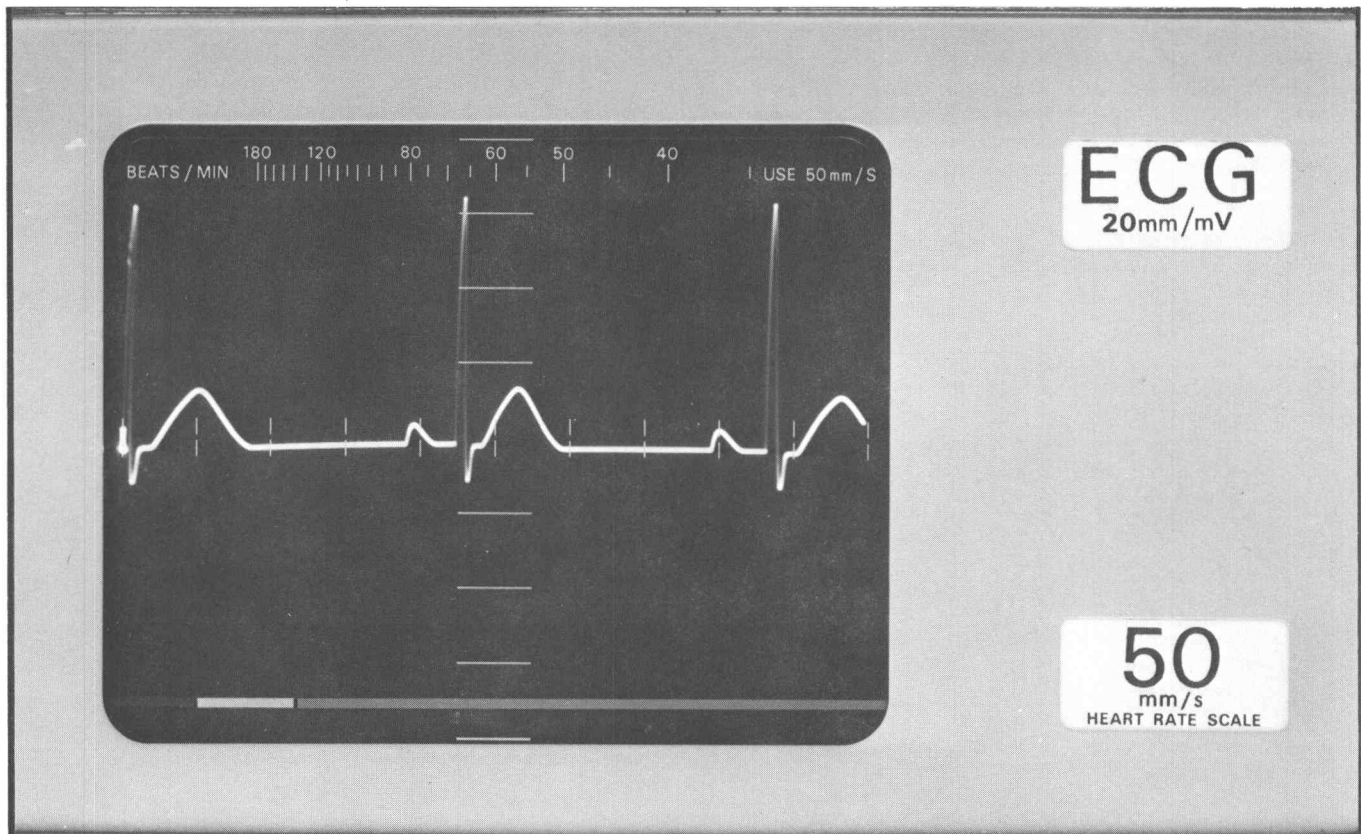

Fig. 2-13. Typical display showing use of the Heart Rate scale.
20. Relax completely, preferably reclining, and watch the viewing area for a display similar to that of Fig. 2-13.